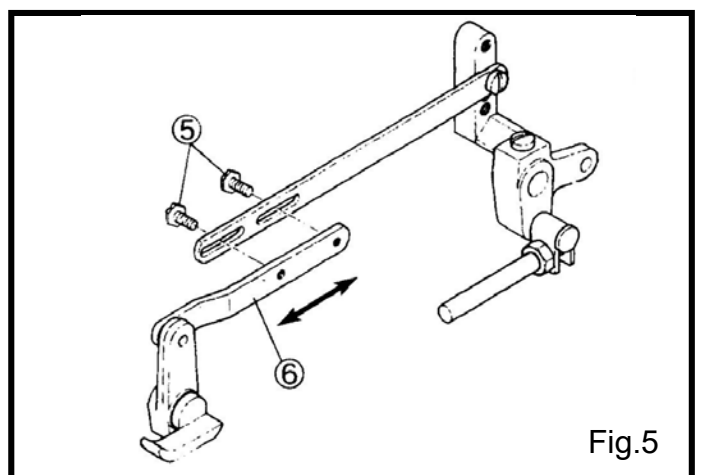

Fig.5
- (2) 放鬆壓腳連接桿螺絲⑤。(Fig.5)
- (3) 移開壓腳連接桿（短）⑥右邊或左邊去調整間隙。
- (2) Loosen the screw⑤ of the presser foot lifter lever link (long). (Fig. 5)
- (3) Move the presser foot lifter lever link (short)⑥right or left to adjust the clearance.